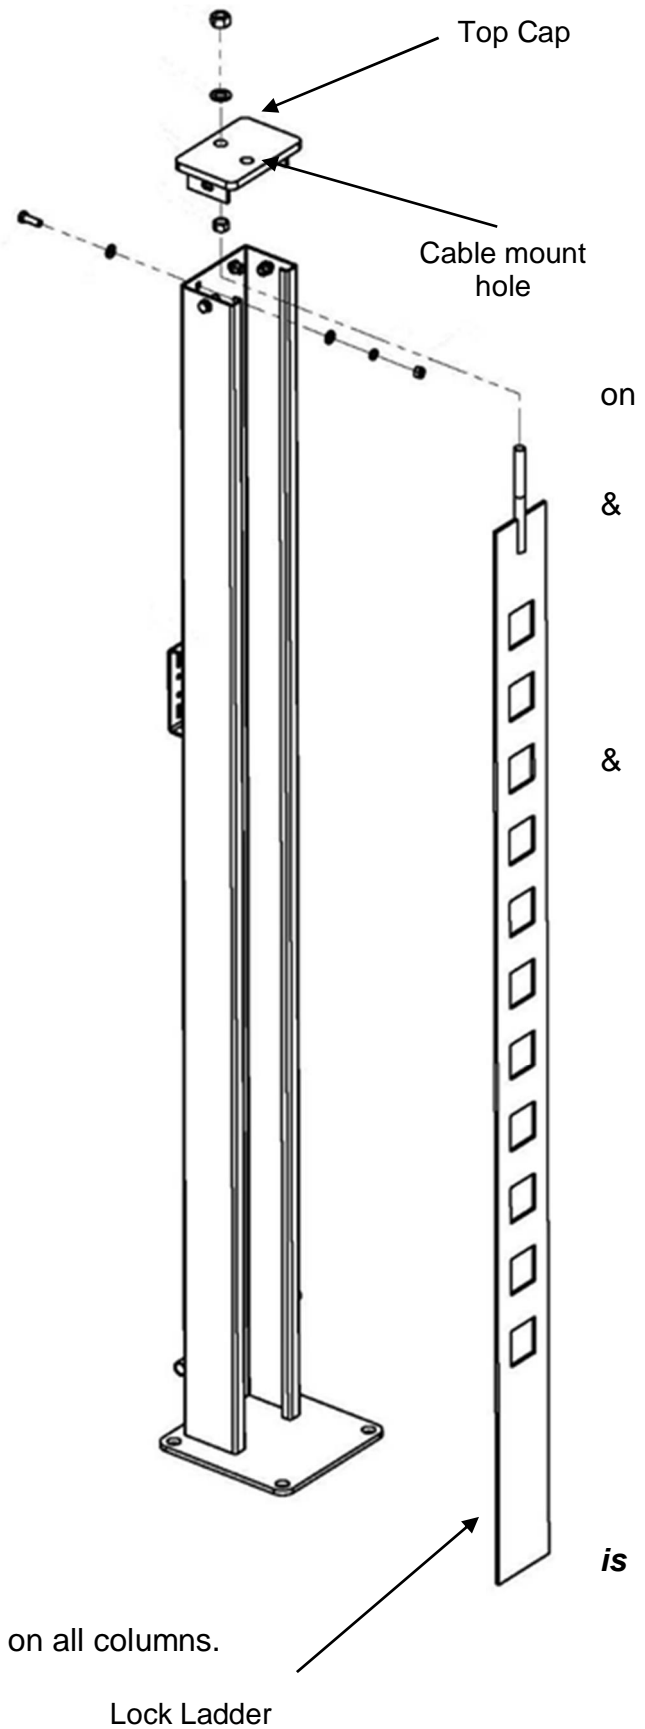

Fig. 5
11. Unpack the Lock Ladders (#11) (Fig. 5) from the package and slide them into the precut slot the Rub Blocks (#67) inside each column. After removing the top Nut from the Lock Ladder, you are ready to install the Top Caps A&B (#10 #65) on the columns.
12. Be aware of the offset hole in columns Top Caps. Arrange Top Caps so that the cable mounting holes are closest to the runways. Use provided Bolts, Nuts, Washers and Lock Washers to install Top Caps, as shown in Fig.5 5b.